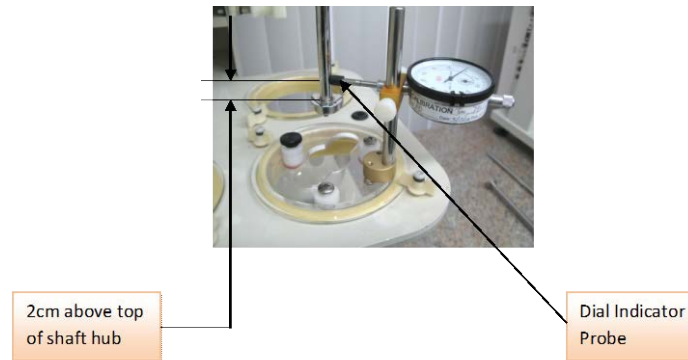

Figure 14
4.6.1.3 With the basket shaft secured, lower and position the dissolution drive head so that the dial indicator probe is located about 2cm above the top of the shaft hub and adjust the location of the indicator assembly to establish a pre-load of at least one revolution of the indicator dial. Tighten the thumb screws to lock the gage in place. See Figure 14.